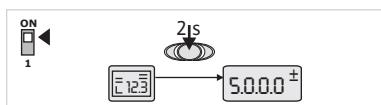

Fig. 30: Service menu mode
**Service mode:** If service mode is activated via DIP switch 1 menu number <5.0.0.0> is displayed first. (Fig. 30).